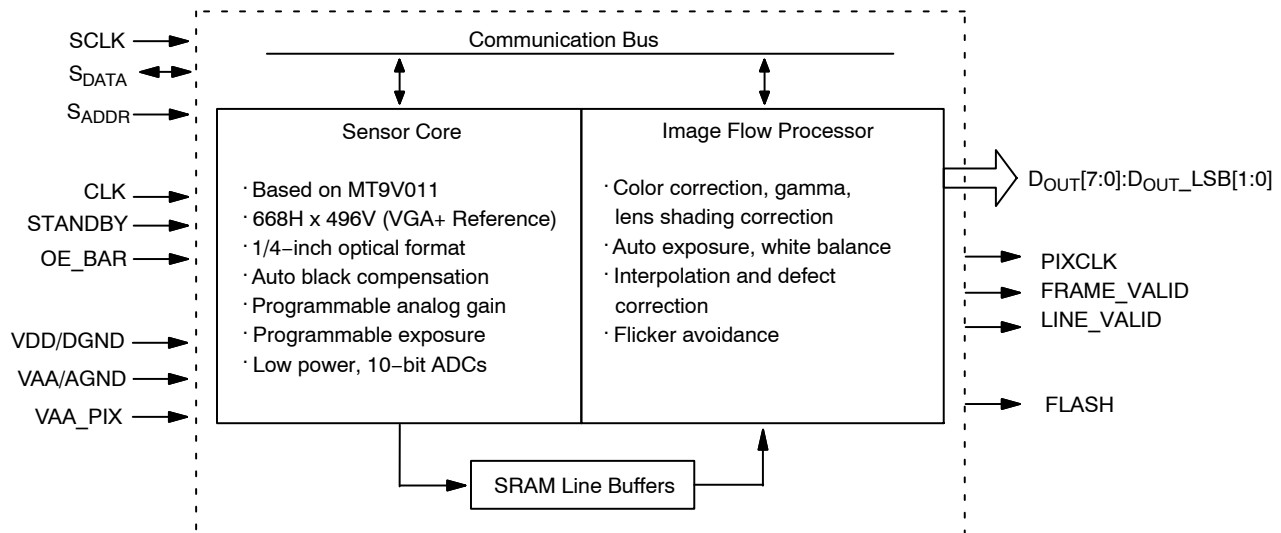

Figure 1. Chip Block Diagram
The MT9V131 is a fully-automatic, single-chip camera, requiring only a power supply, lens, and clock source for basic operation. Output video is streamed through a parallel 8-bit DOUT port, as shown in Figure 1. The output pixel clock is used to latch the data, while FRAME_VALID (FV) and LINE_VALID (LV) signals indicate the active video. The sensor can be put in an ultra-low power sleep mode by asserting the STANDBY pin. Output signals can also be tri-stated by de-asserting the OE_BAR pin. The MT9V131 internal registers can be configured using a two-wire serial interface.
capture raw Bayer-encoded images that are input into the IFP as shown in Figure 1. The IFP processes the incoming stream to create interpolated, color-corrected output and controls the sensor core to maintain the desirable exposure and color balance.